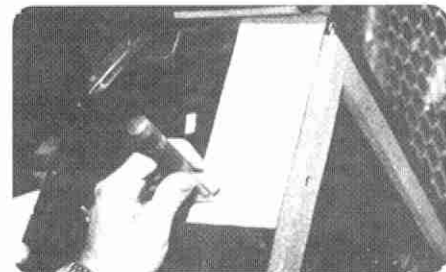

Figure 9
9. Plate template "B" on the evaporator housing right end panel (opposite the blower motor) as indicated on the template and shown in Figure 9. Punch and drill a 1/4" hole where indicated.